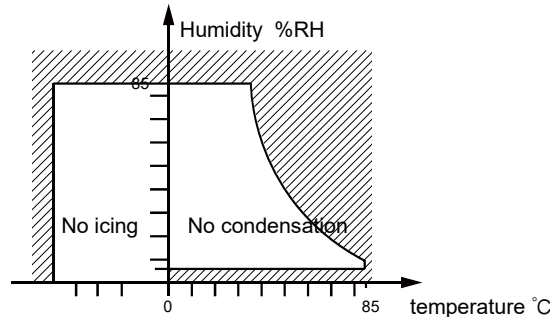

Figure 1
1.1 During use, storage and transportation, please avoid direct sunlight and keep normal temperature, humidity and pressure. Recommended range of temperature and humidity for use, storage and transportation is shown in the non-shaded area in Figure 1: